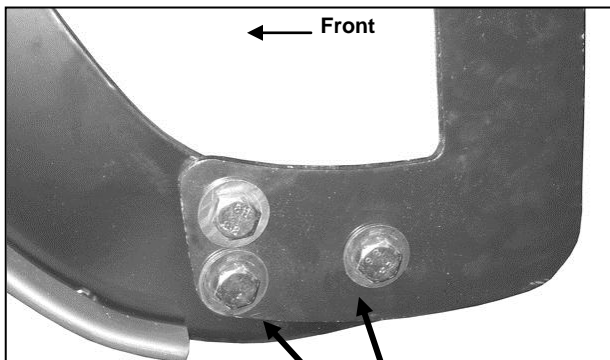

Fig 3
- With assistance, position the Grille Guard up to the inside of the Mounting Brackets. **NOTE:** Depending on model year, Grille Guard may be bolted to the inside or outside of the Mounting Brackets. Attach the Grille Guard to the Mounting Brackets with the included (6) 12mm x 30mm Hex Bolts, (12) 12mm Flat Washers and (6) 12mm Nylon Lock nuts, **(Figure 3)**.